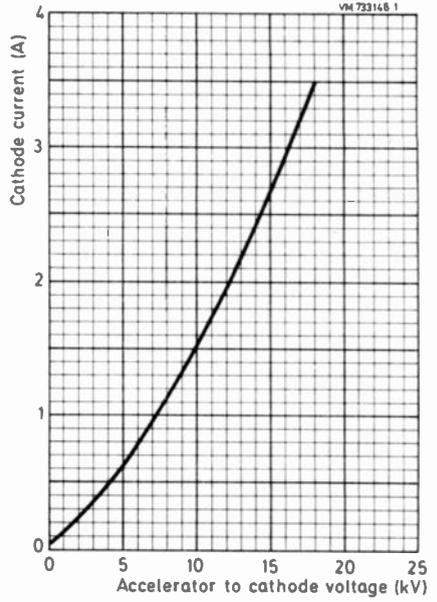

Fig. 5.
- For cathode current versus accelerator-to-cathode voltage, see Fig. 5.